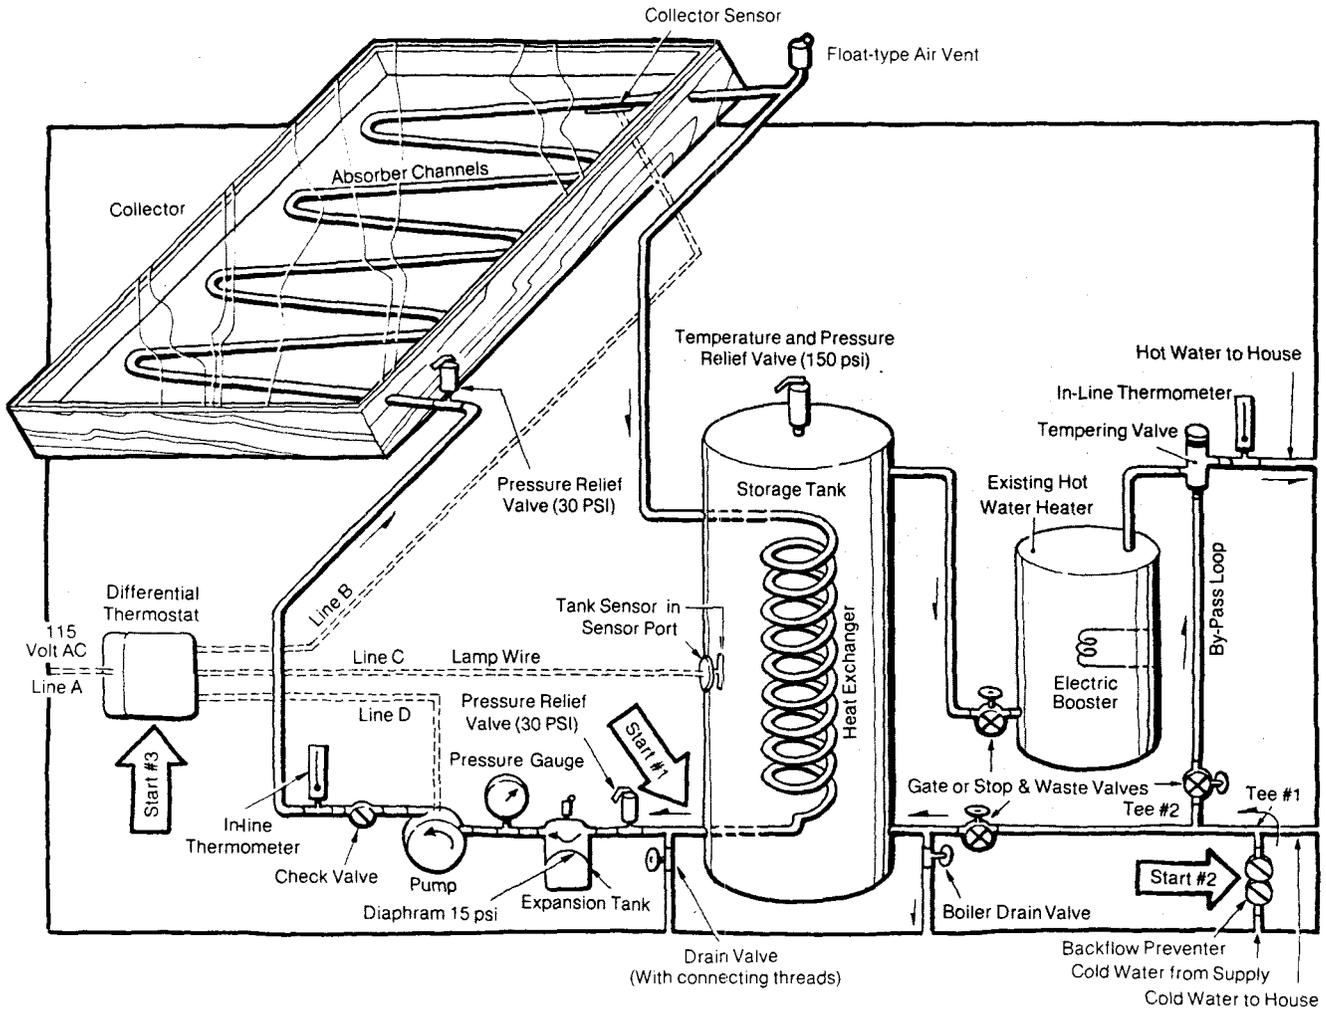

Figure 86. Don't be frightened by this diagram! It's not as complicated as it looks. Begin at any one of the three starting points and trace the system through
Now let's talk about forced-circulation systems, specifically, in detail. Actually, we've been discussing them all along, since much of what's been said so far leads up to the design in Figure 86. But remember that Figure 86 represents only a *suggested* system. It may be more elaborate (and costly) than you want, and it may not suit your house — either old or new — *exactly*.
In many ways Figure 86 represents all of the best elements of sound solar water heating technology at the present time. At first glance it looks complicated and confusing, but it's not — once you break it down and understand what's going on.
The whole collector loop (start #1, Figure 86) should consist of 3/4-inch Type L soft copper or Type M rigid copper. You'll also need standard 3/4-inch sweat-type fittings, valves, threaded nipples, and other fixtures throughout. These should be joined together with high-grade 95-5 solder which withstands heat better than regular 50-50 solder. Any threads should be coated with Teflon pipe dope normally used in refrigerator tubing. Standard plumbing compound will dissolve in propylene glycol, and threaded joints will quickly leak.
Cool, street-temperature or ground-temperature water (start #2, Figure 86) comes from outside the house through the cold-water supply line. As soon as it enters your system there should be a device known as a *backflow preventer*. This is nothing more than a double check valve with an atmospheric vent between the two checks. It doesn't allow water to run back out of your system (Figure 91).
Once it has passed through the backflow preventer the water should reach a tee. Here some will be diverted to supply the house with cold water, and some will move on toward a second tee. At this second intersection (Tee #2 in Figure 86), part of the remaining water will be directed *around* the solar storage tank and the existing heating element to later be mixed with hot water coming out of the tanks. This by-pass meets the main hot water line at a tempering valve, which *we'll* approach in our discussion from the other direction.
*You* are the master controller because you set the temperatures and determine the pump speed (start #3, Figure 86). But when you're not around to oversee things — which is most of the time — a small electrical box with a differential thermostat takes charge. Out of this box run 4 electrical lines. *Line A* plugs into a regular wall socket. *line* leads to a sensor in the collector's absorber plate. *Line C* goes to a sensor against the side of the solar hot water tank, and *Line D* leads to the pump.